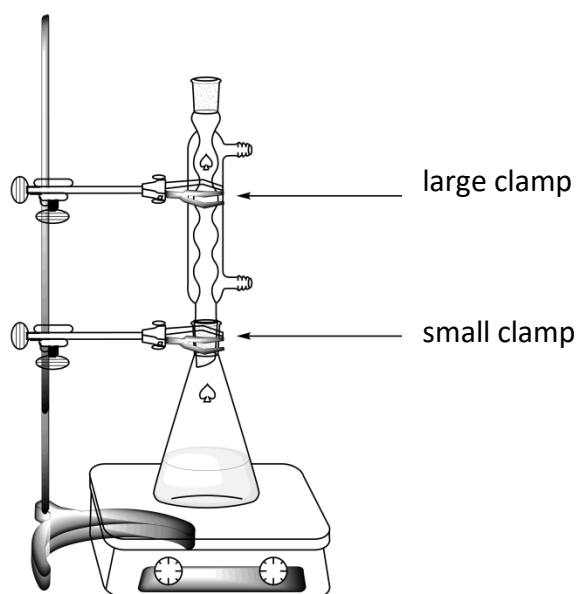

Figure 1. Setup for heating the reaction mixture under reflux
- Attach** the reflux condenser by loosening the large clamp and adjusting the ground joints (see Figure 1). **Raise** your HELP card. A lab assistant will come to turn on the water and set the hotplate.
2. **Perform** the recrystallization of the crude product contained in the 50 mL ground-joint Erlenmeyer flask with the appropriate amount of this water/ethanol mixture, using the same setup as for the reflux heating (see Figure 1). **Raise** your HELP card. A lab assistant will come to turn on the water and set the hotplate. **Add** the solvent by the top of the condenser.